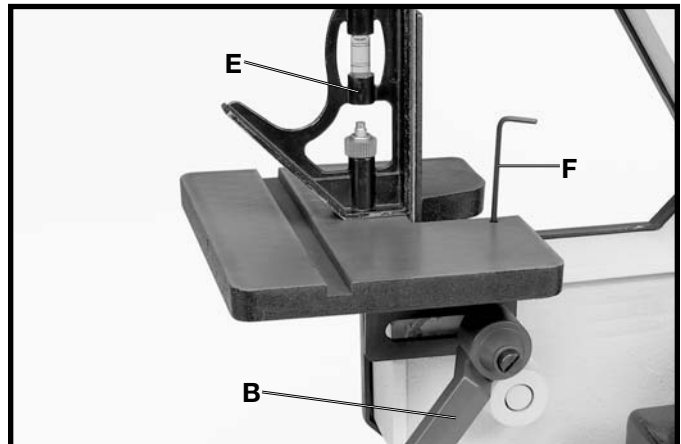

Fig. 26
For most sanding operations the table is set at a 90 degree angle to the sanding belt. A positive stop is provided to insure fast positioning of the table at 90 degrees to the belt. Loosen the table lock lever (B) Fig. 26, and tilt the table to the rear as far as possible. Using a combination square (E), place one end of the square on the table with the other end against the sanding belt, as shown, and check to see if the table is 90 degrees to the belt. If the table is not at 90 degrees to the belt, turn adjusting screw with wrench (F). The adjusting screw should bottom against the frame when the table is 90 degrees to the belt.